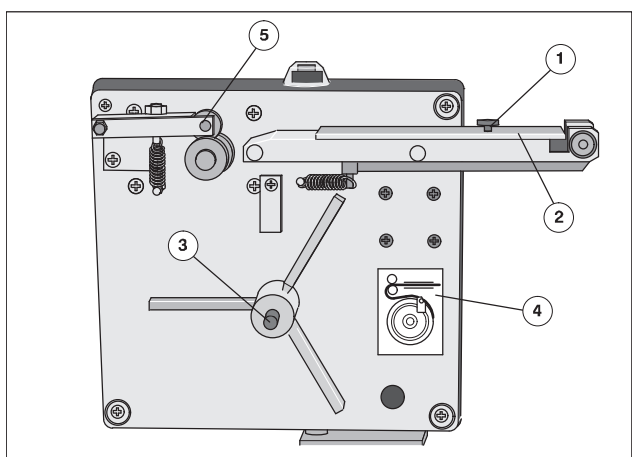

Fig. 37 Tape inserter opened
3. Open the knurled nut (Fig. 37/1), in order to remove paper remnants and paper dust in the the paper channel (Fig. 37/2).
4. Remove empty roll sleeve from the shaft (Fig. 37/3).
5. Place new paper roll on the shaft (Fig. 37/3) and insert in the tape inserter (Fig. 37/4) according to the diagram. In doing so, slightly raise the roller (Fig. 37/5).
6. Close the paper channel and tighten the knurled nut (Fig. 37/1).